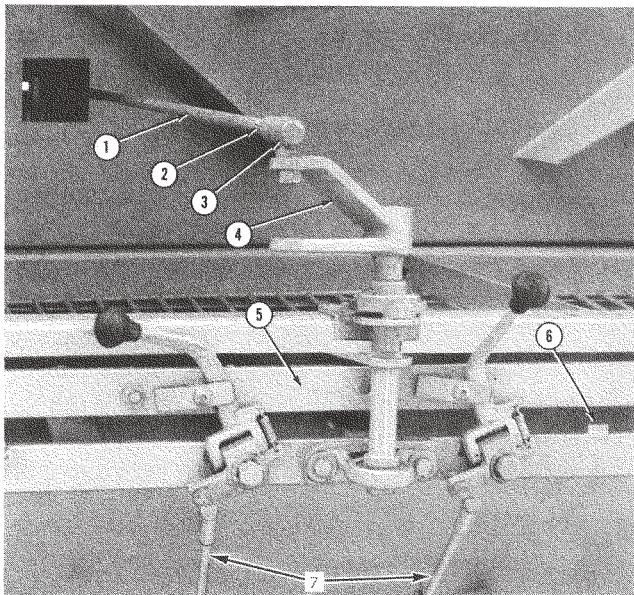

Figure 3. Hopper
6. Attach the hopper reach rod (see Figure 3).